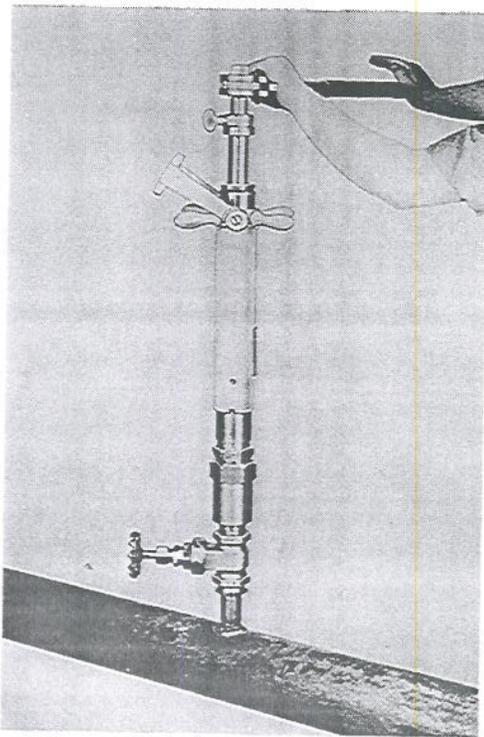

FIGURE 42
10. Reverse ratchet and turn the ratchet handle **counter-clockwise** to take up the slack. Hold in this position with one hand and strike the end of the ratchet handle a sharp blow **counter-clockwise** with the other hand. **Figure 42.**